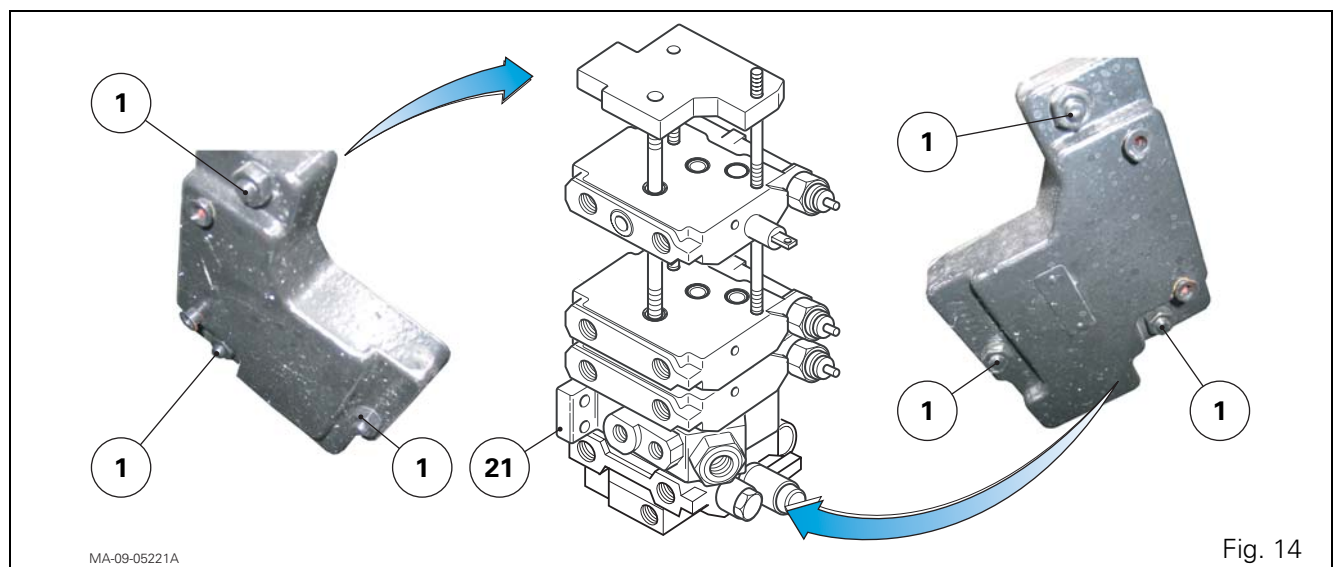

Fig. 14
21. Place the spool valve block in a vertical position (Fig. 14).
22. Loosen the nuts (1) (Fig. 14).